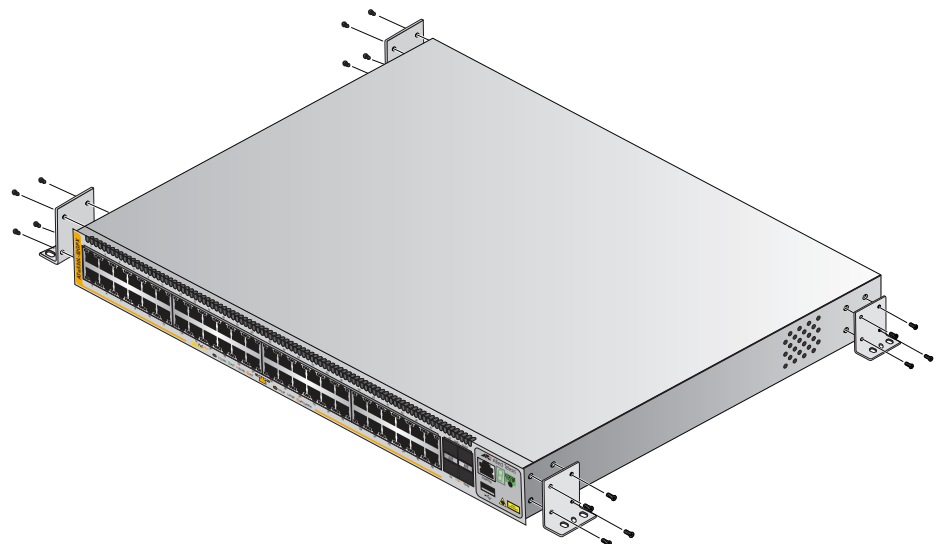

Figure 23. Installing Four Brackets on the AT-x530L-52GPX Switches
2. For the AT-x530L-52GPX switches, install 4 wall/equipment rack brackets to the sides of the unit with the 16 M4x6mm screws included with the switch. Refer to Figure 23.
2. For the AT-x530L-52GPX switches, install 4 wall/equipment rack brackets to the sides of the unit with the 16 M4x6mm screws included with the switch. Refer to Figure 23 on page 65.